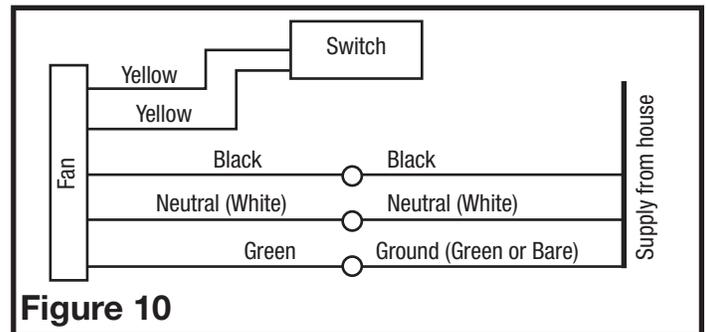

Figure 10
4. For two speed fans wired for continuous ventilation, connect the White wire of the fan to the White (Neutral) wire from the power source. Connect the ground wire from the house to the Green wire from the fan housing. Connect the Black wire of the fan to the Black wire (Hot) from the power source. The fan will operate on low speed continuously and boost to high upon a rise in humidity. Using a properly grounded standard duplex toggle switch, connect 1 yellow wire to each side of the switch. Closing the switch will change from normal to high speed. Using a properly grounded standard duplex toggle switch (such as Leviton 5224-2W, not included) connect the Black wire from the supply to one side of the top and bottom switch. A manual override switch (not included) can be used to provide a manual fan Off function (**Figure 10**).